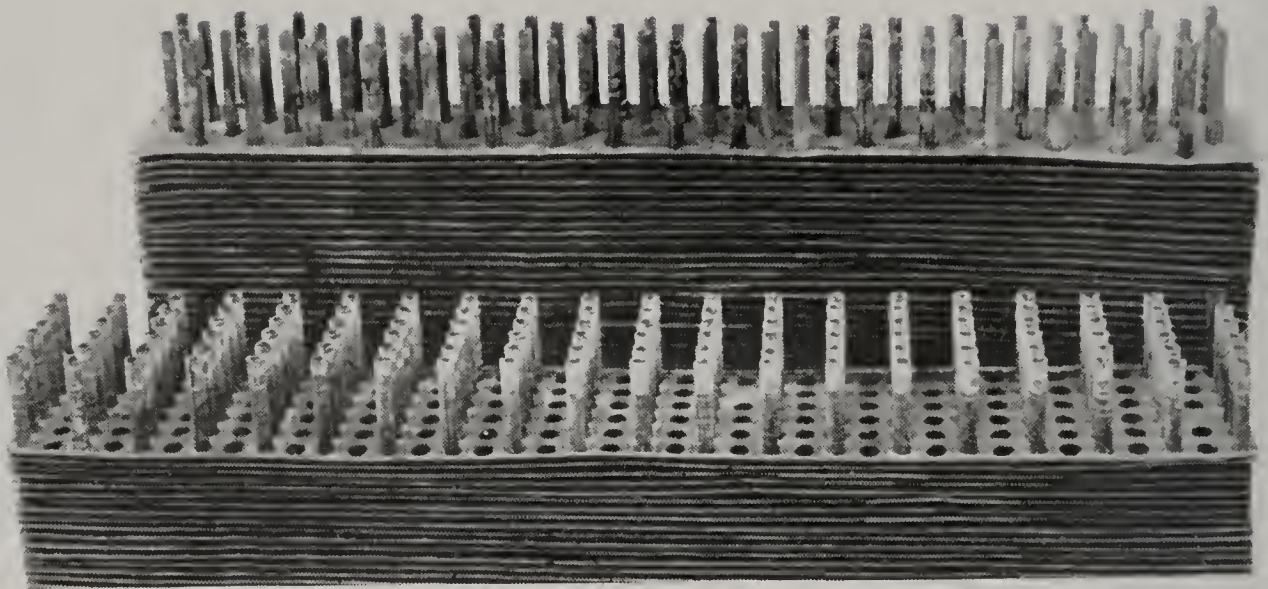

Fig. 2
**7. Tubular Radiators**—The tubular type, Fig. 2, is made up of a multitude of one-fourth inch tubes acting as a water passage between the upper and lower tanks. The bottom of the upper tank and the top of the lower tank are known as headers. The tubes pass thru and are soldered to these headers. These tubes are made of very thin brass or copper in order to get the closest possible contact between the cool air and the warm water. They are tinned inside and out. The inside tinning reduces the danger of corrosive waters. The fins are soldered fast to the tubes. If these fins become loose on the tubes or are cut out in order to make repairs the cooling capacity of the radiator is lessened accordingly.
There are two general methods of arrangement of tubes in the tubular core, namely; the straight row and the staggered row. The lower core in Fig. 2 is of the straight row type. In this six tubes are spaced on one-half inch centers in a row from face to face of the core. These rows are spaced on one inch centers across the face of the core. The upper core in Fig. 2 is the staggered type. In this two tubes are in line from front to back spaced on one inch centers. These pairs of tubes are